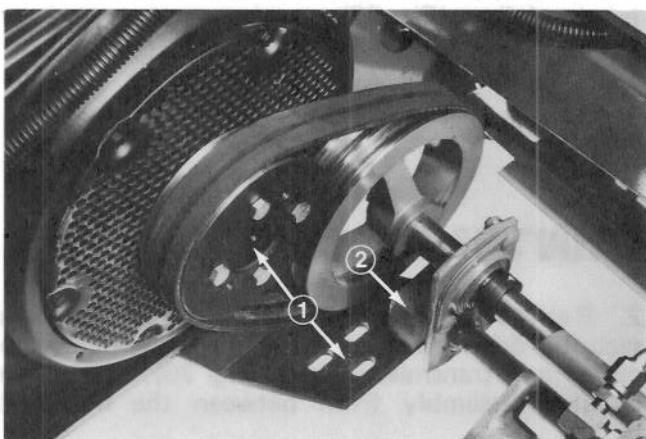
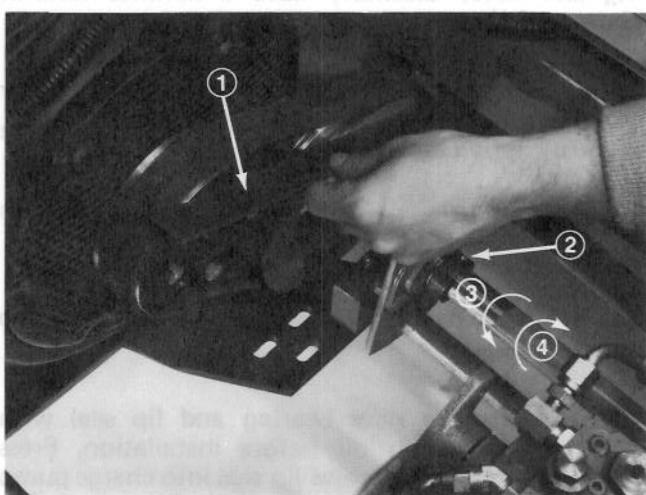

Figure 77
Figure 78
3. Remove three capscrews, flatwashers, lockwashers and nuts securing PTO brake bracket to mounting flange on engine plate (Fig. 77).
4. Remove two capscrews, and lockwashers securing bearing hub to bracket (Fig. 77).
6. Install new belts around the PTO shaft pulley and engine pulley (Fig. 77), engage the PTO lever to tension belt and lay a straight edge along the bottom face of the engine and PTO pulleys to check alignment (Fig. 77). If pulleys are aligned within $1/16$ inch (1.6 mm), proceed to step 6. If they are not aligned within $1/16$ inch (1.6 mm) loosen locking collars on PTO shaft and shift shaft and pulley until proper alignment is achieved (Fig. 78). Relock collars.